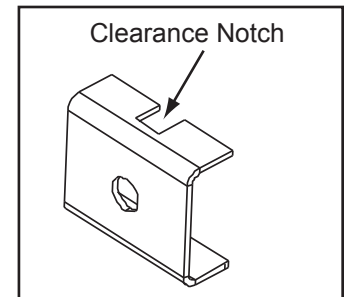

Figure 24.3
e) Each clip has a clearance notch to allow room for the cast on the boss. Place the clips over the boss so that the notch is facing the outer edge of the surround. **Figure 24.3**